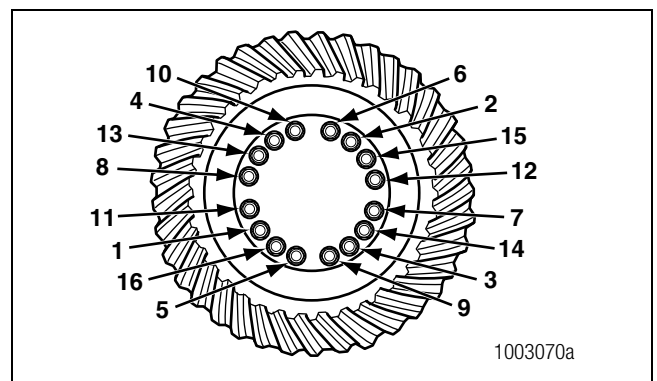

Figure 5.20
- Tighten the fasteners to the correct torque value in a crisscross pattern. Refer to Figure 5.20 and Table H in Section 7.